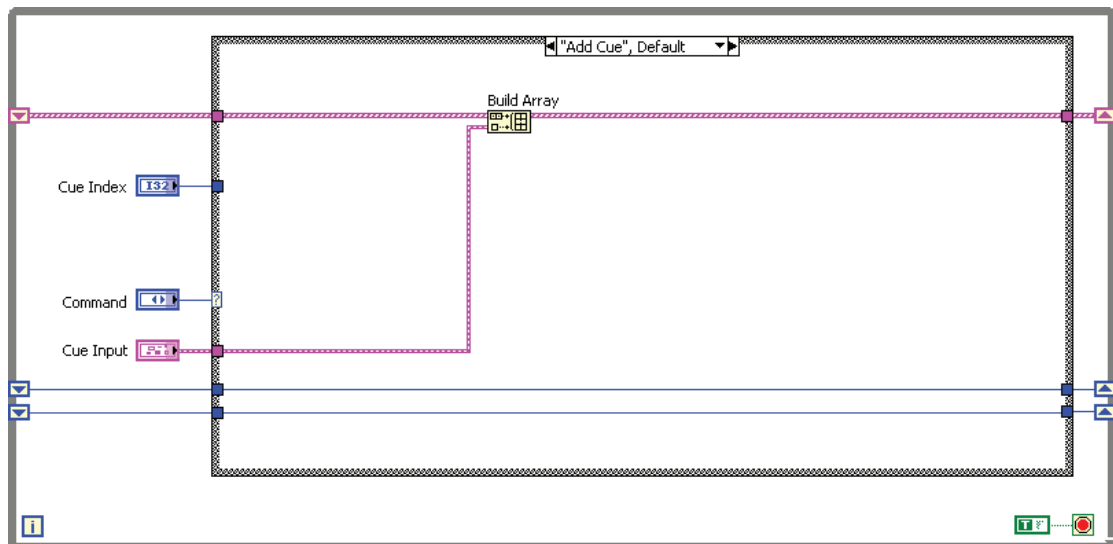

Figure 4-12. Functional Global Variable Add Cue Case
6. Complete the Add Cue case as shown in Figure 4-12 using the following items. This case adds a new cue to the Cue List.